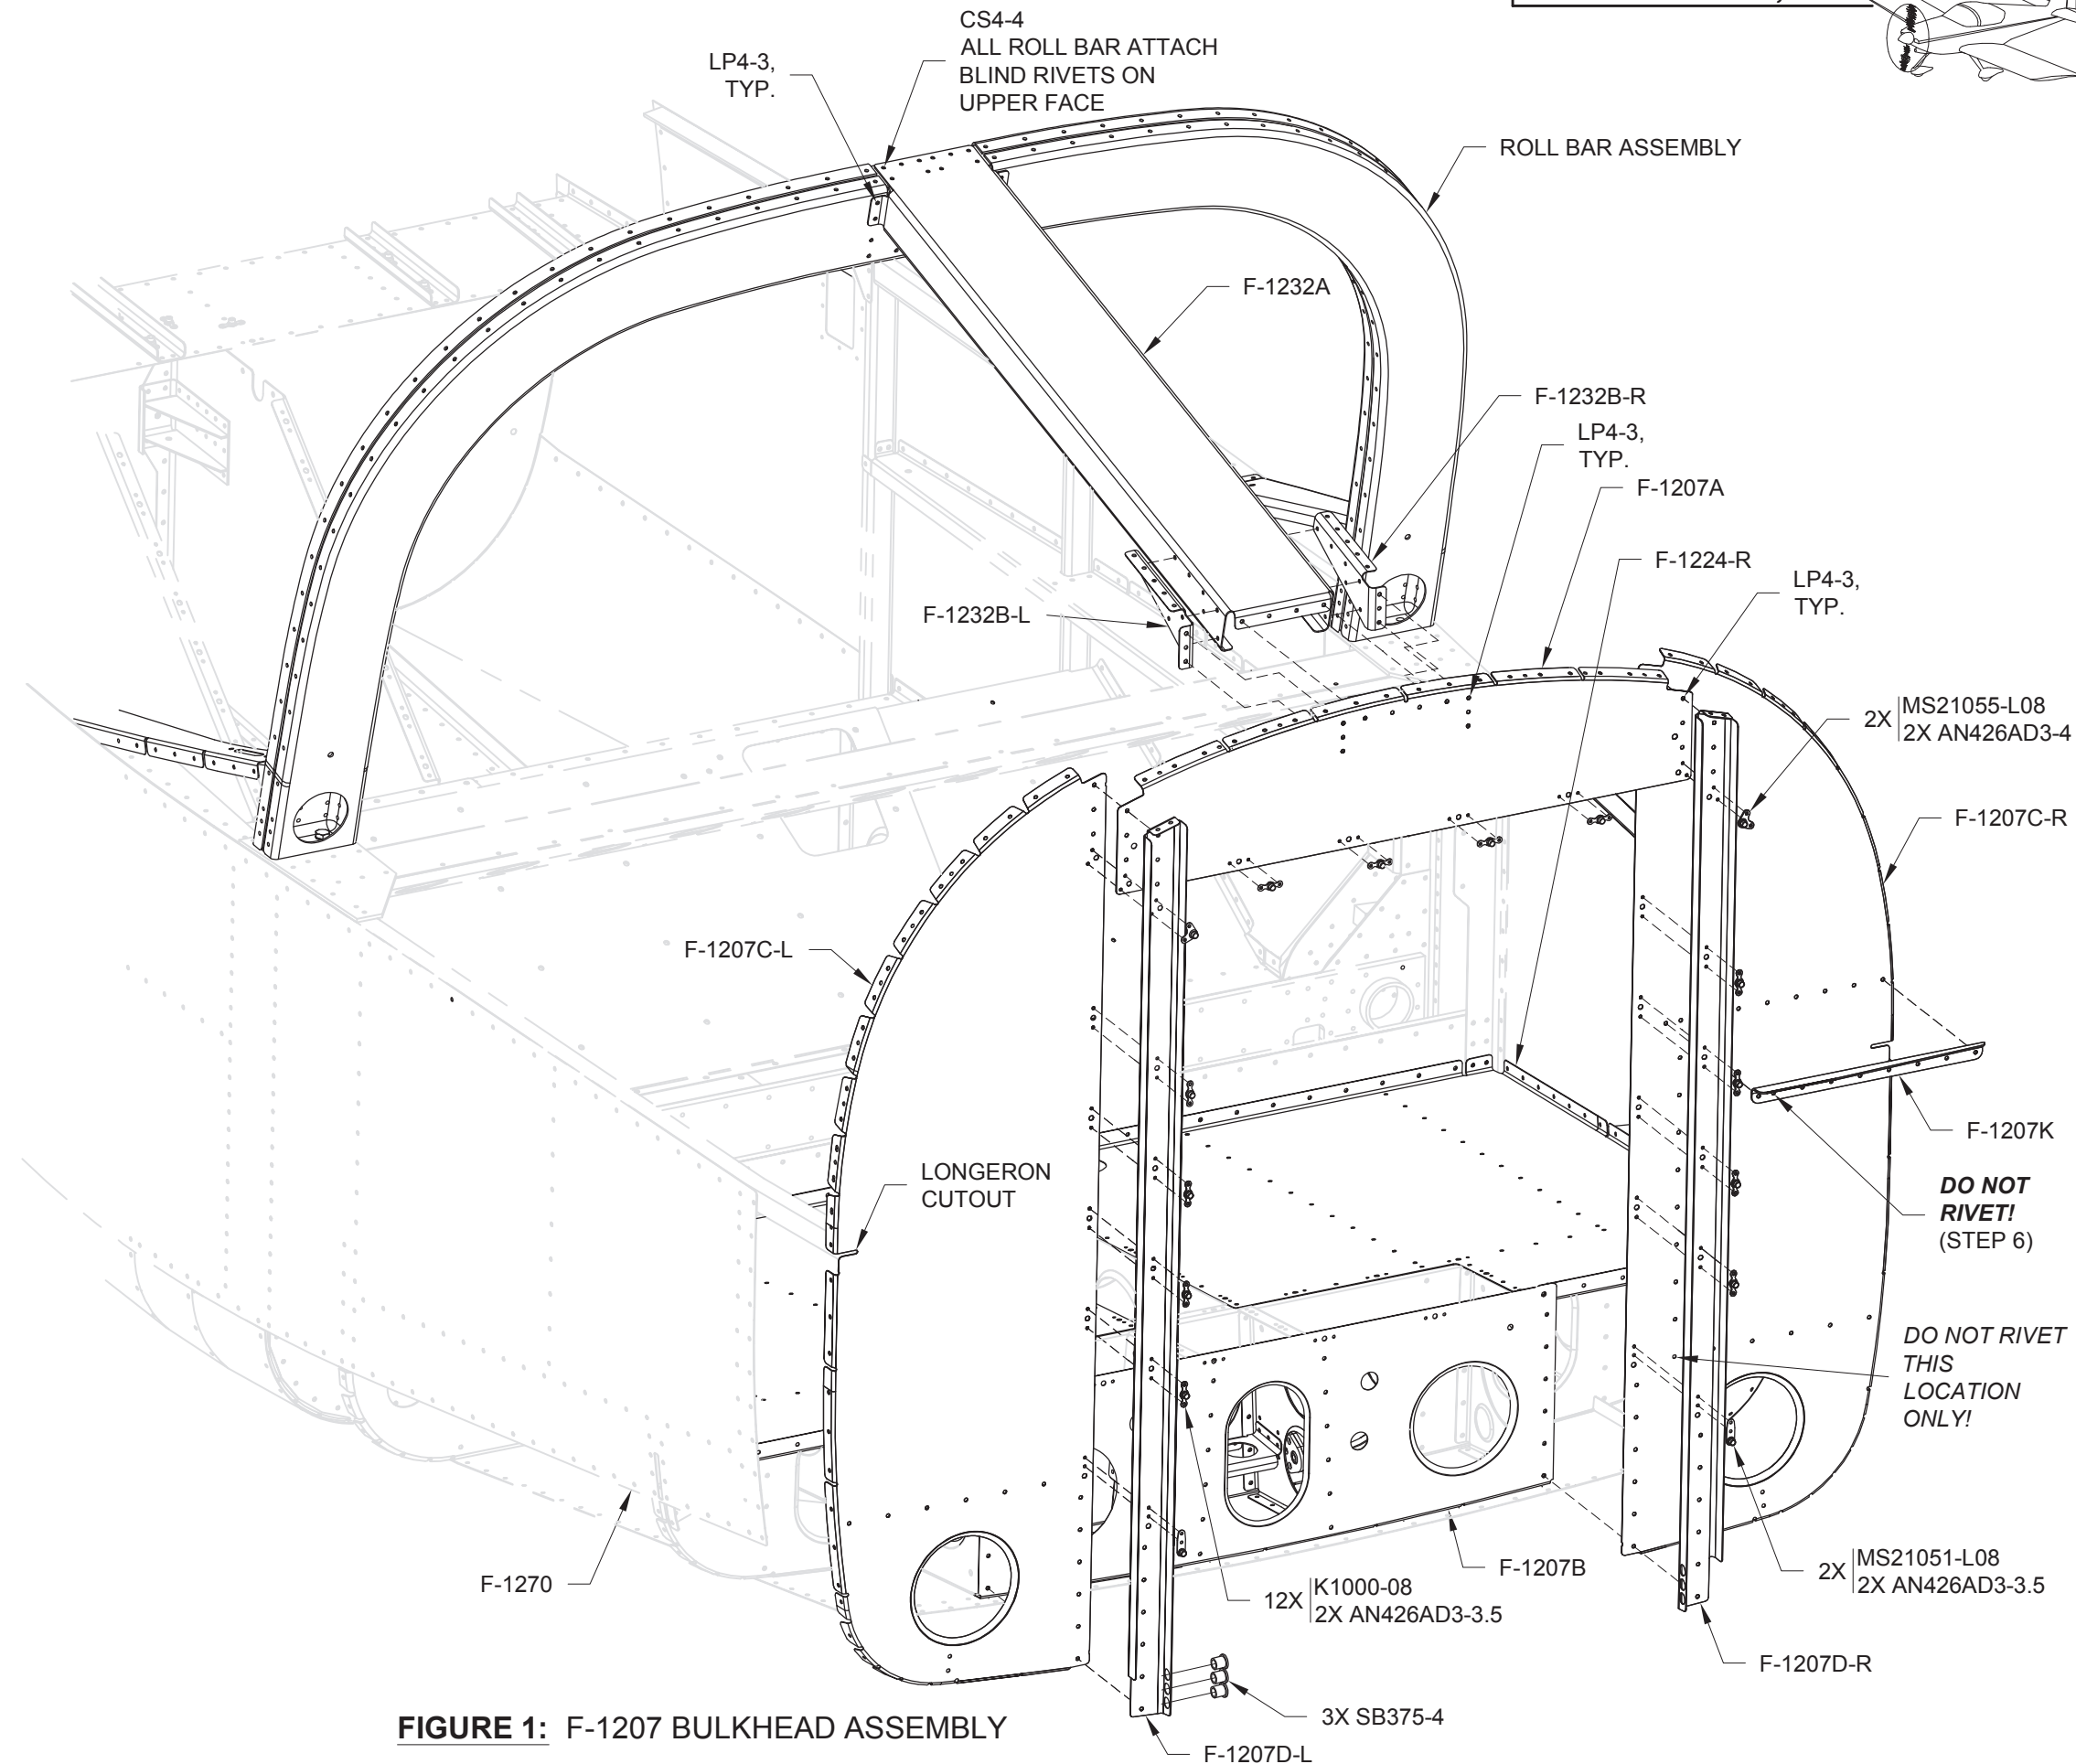

FIGURE 1: F-1207 BULKHEAD ASSEMBLY
Rivet the assembly to the Roll Bar Assembly and the baggage bulkhead per the callouts in Figure 1.
Step 6: Cleco then rivet the F-1207K Brace Angle to the F-1207C-R Baggage Bulkhead except the second hole from the inboard end that is also common to the F-1207J Attach Angle as shown in Figure 1 and Page 24-06, Figure 1.